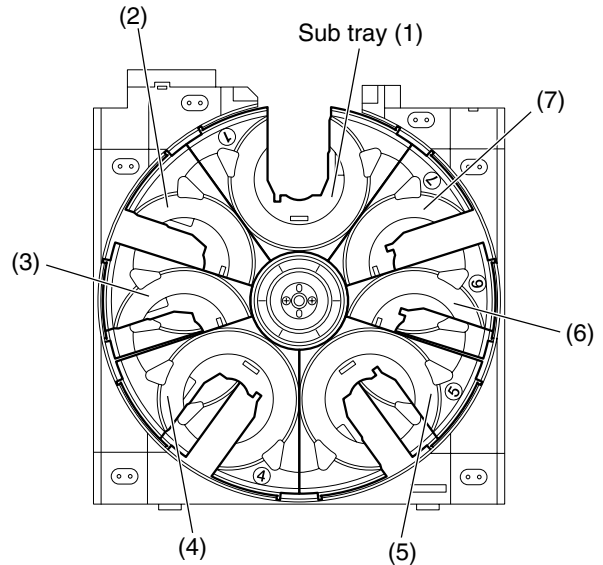

Fig.5
(See Fig.5 and 6)**
CAUTION: Make sure the sub trays are set as shown in Fig.5. When moving the sub trays, put the sub trays which come to the position (4) and (5) forward in turn.